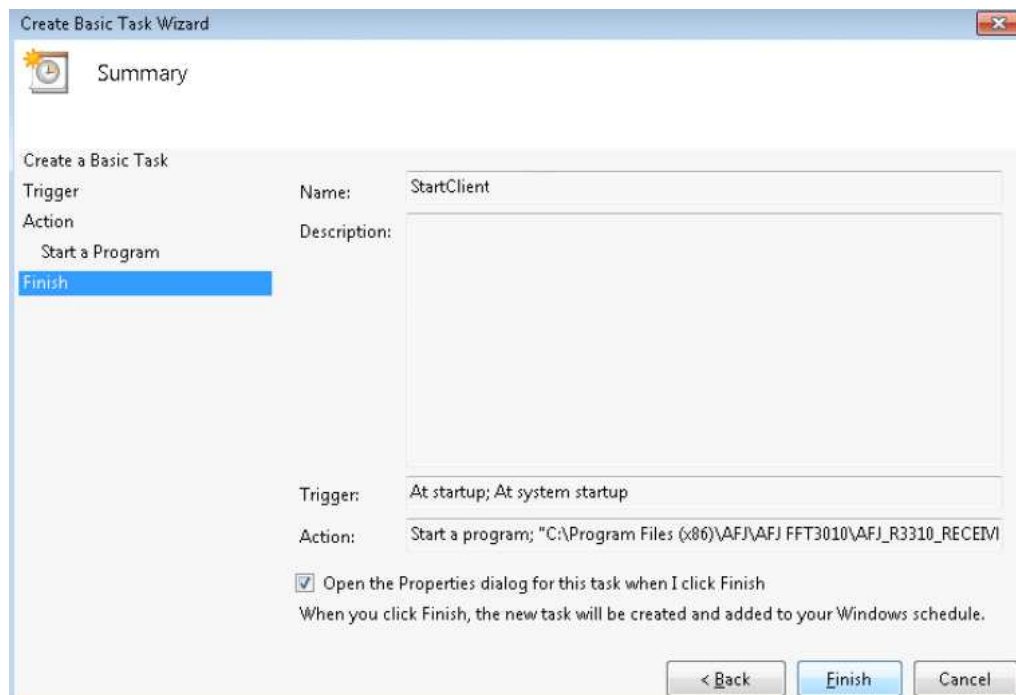

Fig. C.40: Finish window
STEP 9 – In *Create Basic Task Wizard* window please select *Finish* panel, verify the *Name*, *Trigger* and *Action* fields, select *Open the Properties dialog for this task when I click Finish* option and then click *Finish* (Fig. C.40).